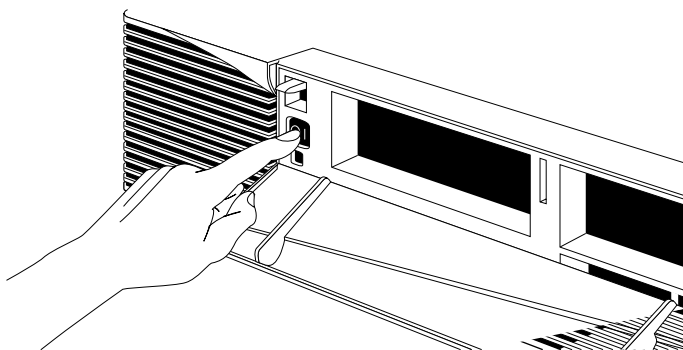

Figure B-2 Turning On the Indigo² IMPACT Workstation
- Press the power switch to turn on the system, as shown in Figure B-2.